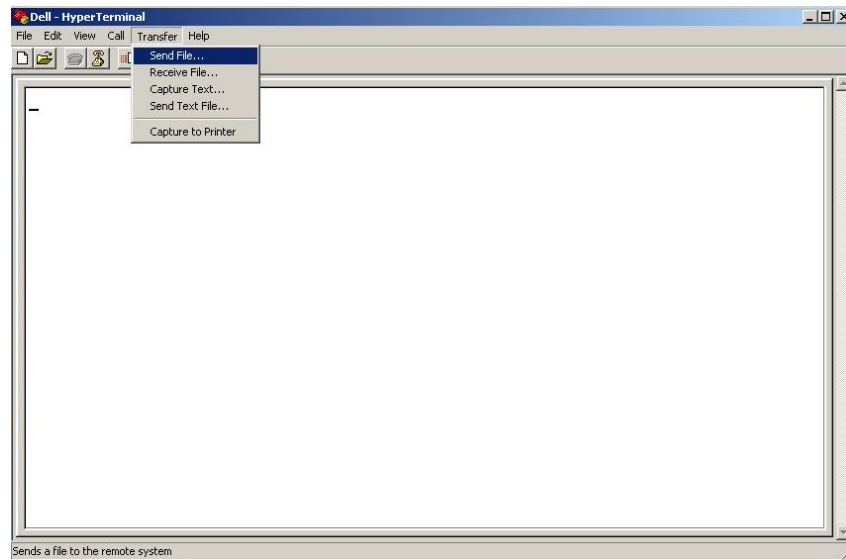

Figure 2-66: Send File Menu Command
15. Use HyperTerminal to transfer the supplied configuration file by selecting **Transfer>Send File**, as shown in Figure 2-66.